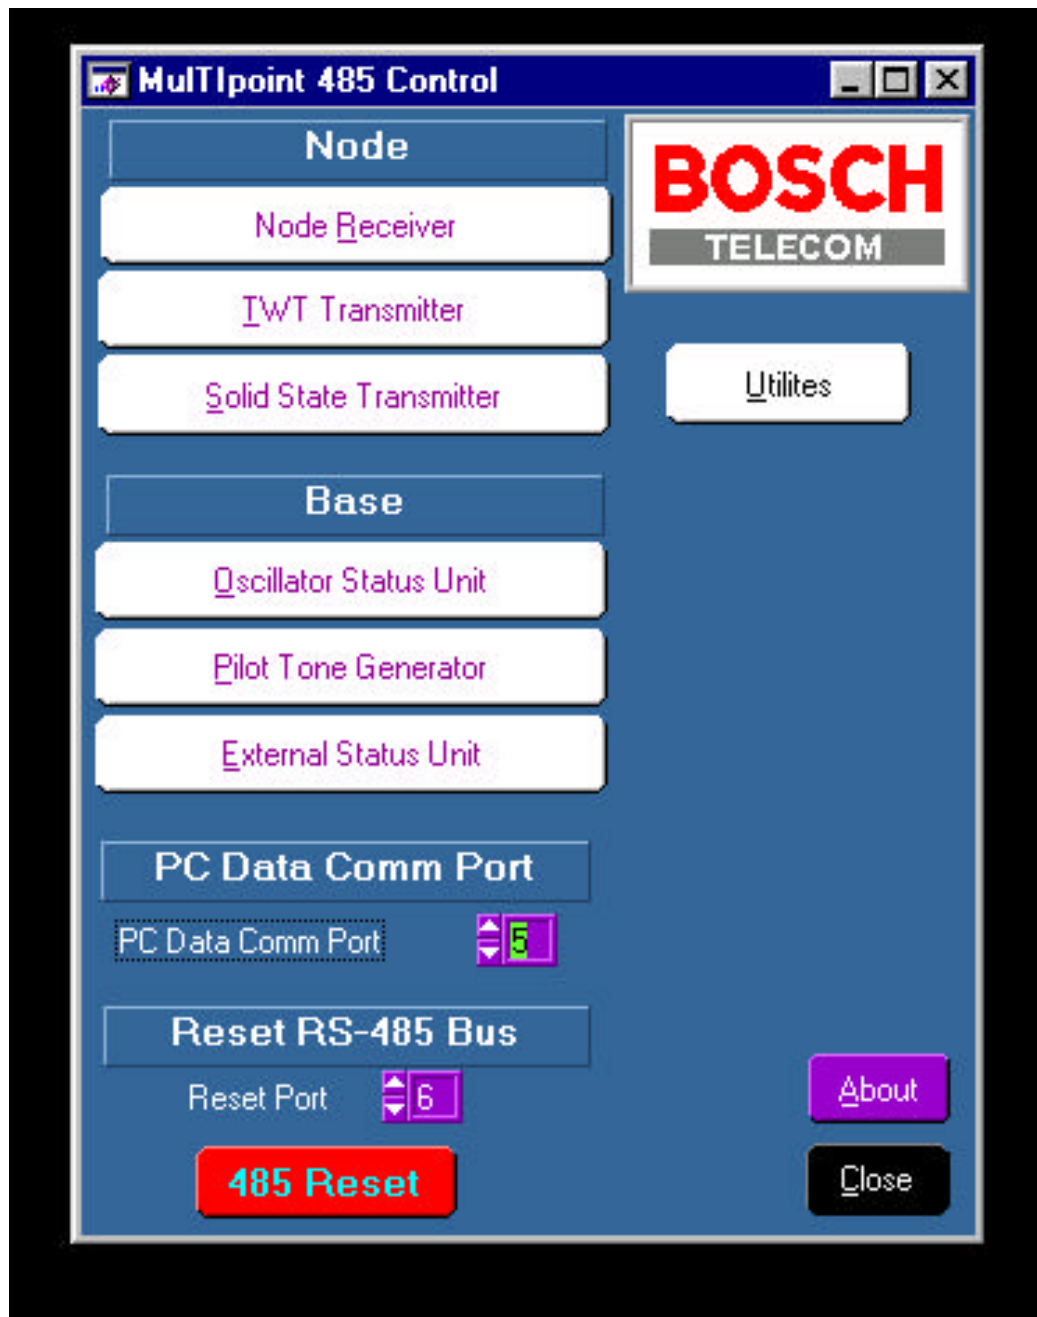

Figure 8-2 NA1 Main Window
- 4.2.1** On the main NA1 window (refer to Figure 8-2), single-click on the Solid State Transmitter "button".